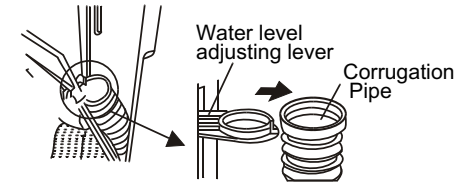

Figure 1
2. Take off the corrugation pipe. Dismantle the upper part of the corrugation pipe inside the overflow filter (as indicated in Figure 1).